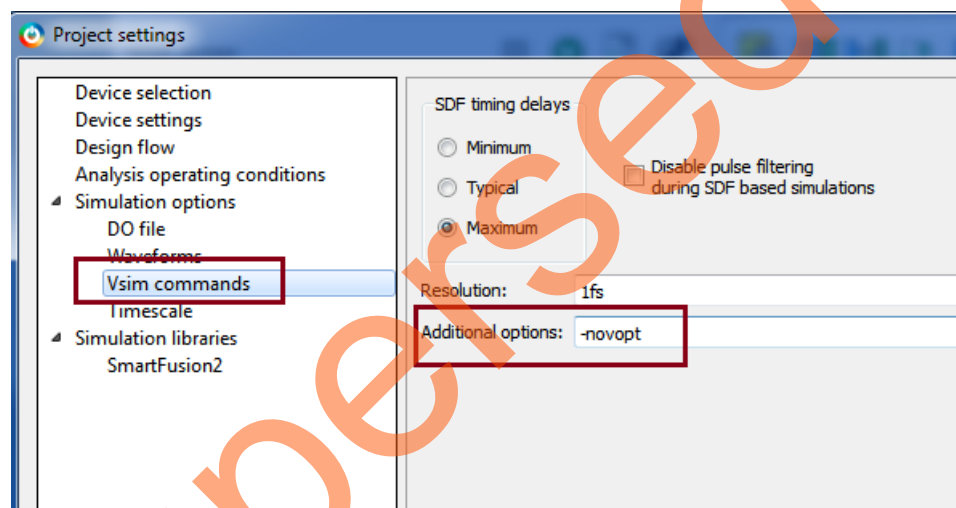

Figure 44. Project Settings – Specifying **-novopt** Simulation Option
- (b) Select **Vsim commands** under **Simulation Options**. Add the **-novopt** option into the **Additional options** field, as shown in Figure 44. The **-novopt** option disables the automatic design optimization run.